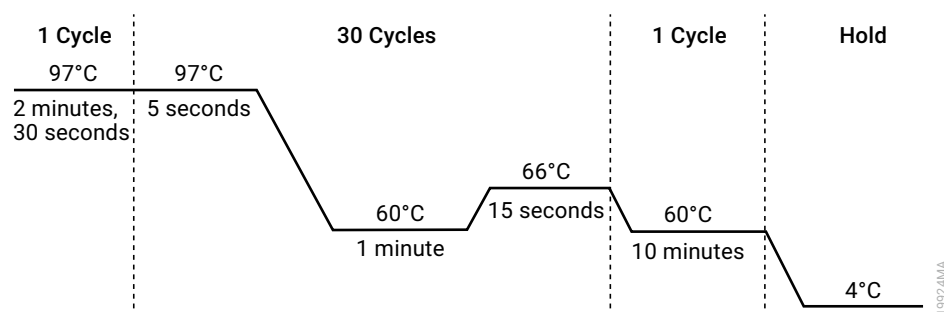

Figure 3. Thermal cycling protocol for the ProFlex® PCR System.
- Select and run the protocol provided below and in Figure 3. The total cycling time is approximately 70 minutes.